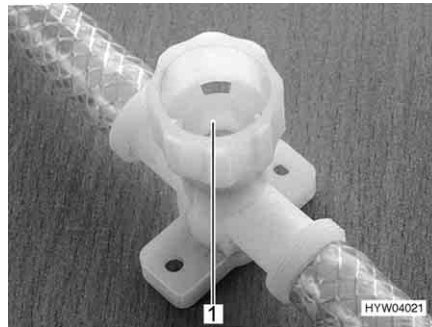

Fig. 125 Drain cock for hot water source
- Close all drain cocks. To do this, close the caps (Fig. 125,1) by turning them in a clockwise direction.
- Open all drain cocks of the hot water source. To do this turn the caps (Fig. 125,1) in an anticlockwise direction.